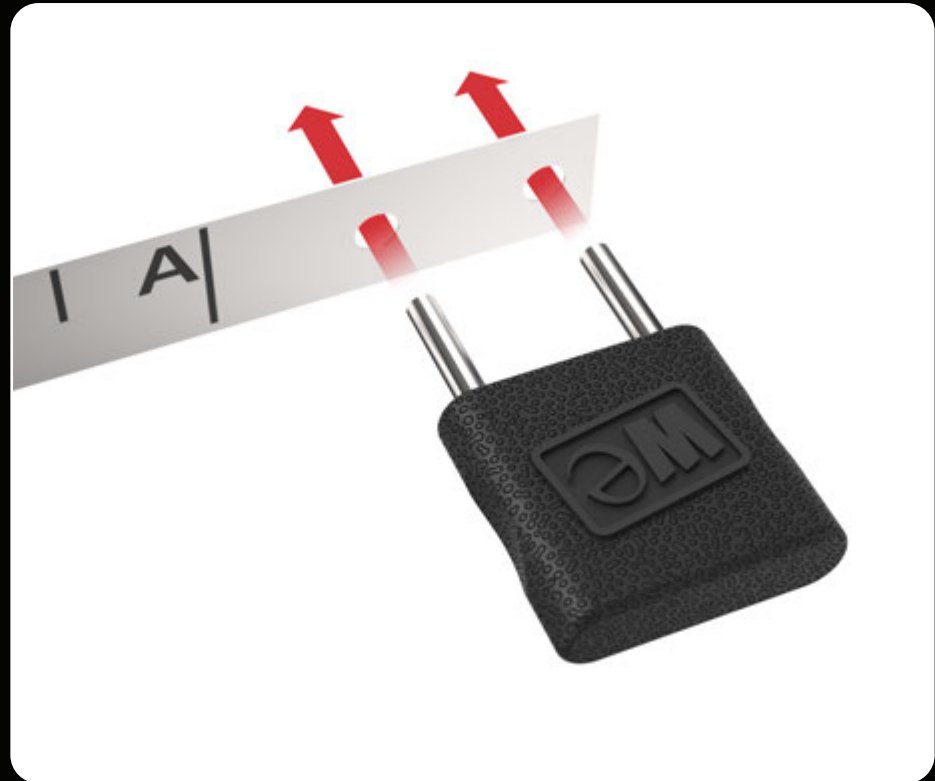

Fig. 1
Step 1: Insert the two prongs of the Depth Key into the two holes in the Alignment Guide as shown in *Figure 1*.